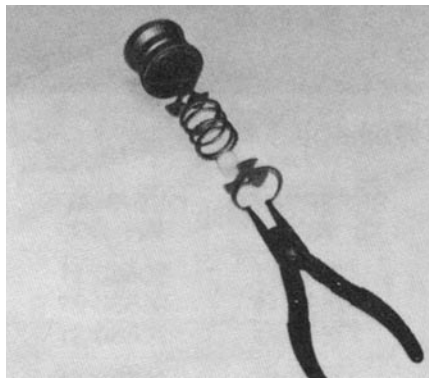

Figure 4-9 Removing shuttle assembly components.
- (4), spring (4E), and guide sleeve (4) from the shuttle (4A). See Figure 4.9.